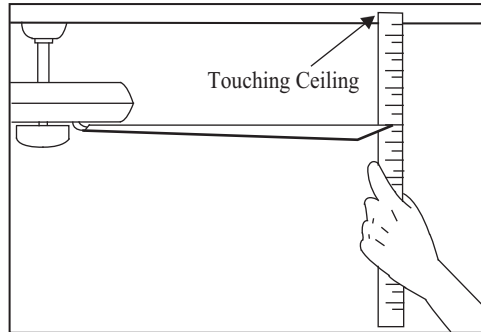

Figure 16
2. Most fan wobble problems are caused when blade levels are unequal. Check this level by selecting a point on the ceiling above the tip of one of the blades. Measure from a point on the center of each blade to the point on the ceiling. Measure this distance as shown in Figure 16. Rotate the fan until the next blade is positioned for measurement. Repeat for each blade. Measurements deviation should be within $1/8"$. Run the fan for 10 Minutes.